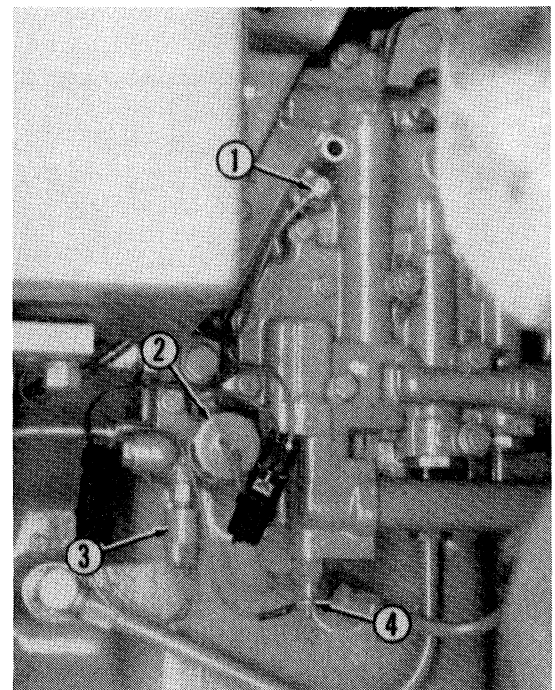

Fig. 99—Gage cluster sensors are located on traction clutch valve housing on tractors with Power Shift transmission.
On tractors equipped with Power Shift transmission, the oil temperature sensor (1—Fig. 99), low oil pressure sensor (3), oil filter restriction sensor (2) and filter override switch (4) along with a time delay device all work together to activate the warning light. The light should come on if oil temperature exceeds 221° F (105° C), if oil pressure is below 120 psi (827 kPa) or if oil filter restriction pressure exceeds 81 psi (556 kPa). The filter override switch should be open at temperatures below 61° F (16° C) preventing a circuit to ground and a false warning light when oil is cold. The switch should be closed above 68° F (20° C) providing a circuit to ground for filter sensor if sensor detects filter restriction.